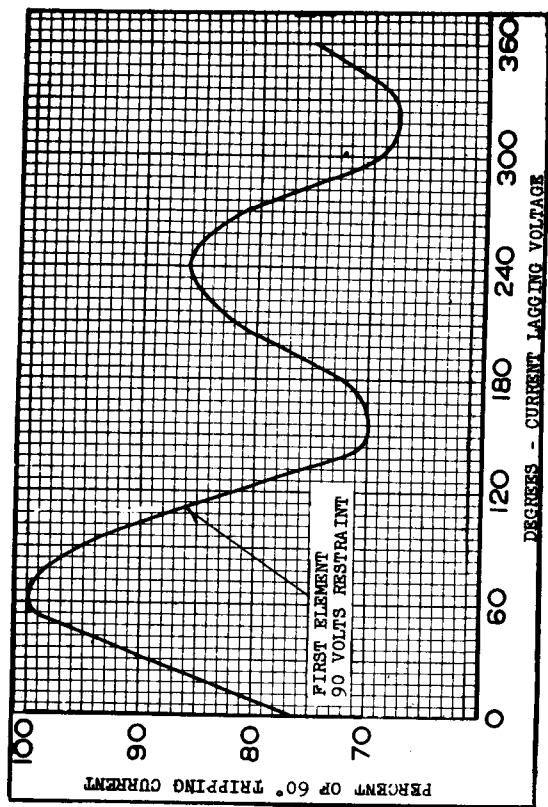

Fig. 5. Typical Phase Angle Curve of the Impedance Unit (HZ)
Equation (1) applies if the protected line section impedance angle is  $60^\circ$ . At other line angles the settings can be corrected by using Fig. 5. For example, if the line angle is  $45^\circ$ , the unit will operate at 96% of the  $60^\circ$  tripping current. Therefore, reduce the  $TS$  product by the reciprocal of 96% or 4.3%.